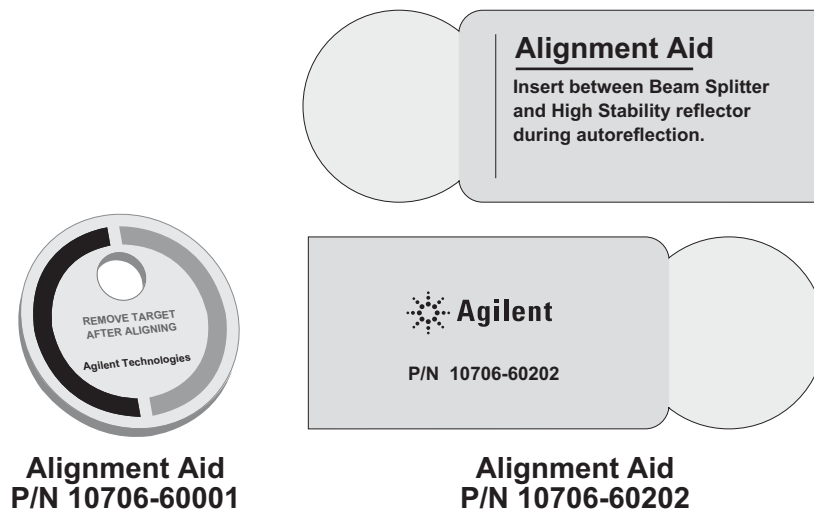
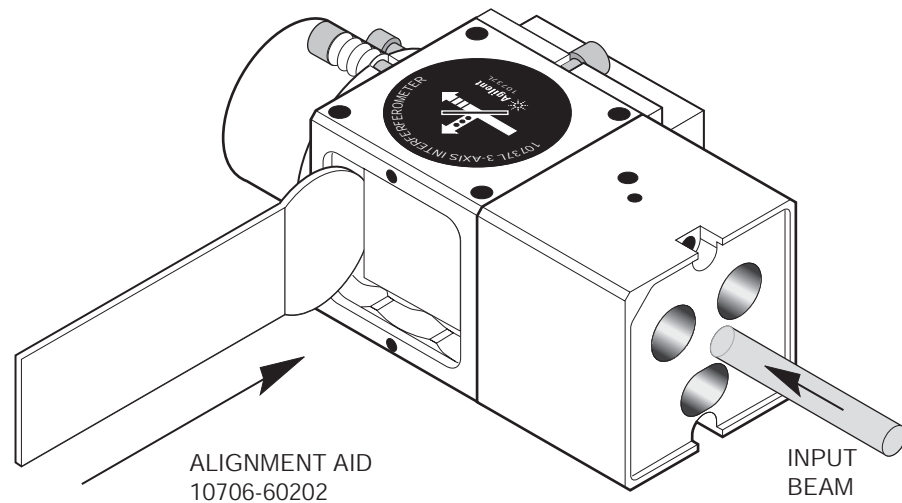

Figure 200 Agilent 10737L/R interferometers—alignment aids
Figure 203 Agilent 10737L Compact Three-Axis Interferometer with 10706-60202 Alignment Aid
Alignment aid (Agilent Part Number 10706-60202), shown in Figure 200, facilitates autoreflection alignment for the high stability adapter to achieve minimal thermal drift. It contains a quarter-wave plate which allows the reference beam to return to the laser head without offset. Figure 203 illustrates how the aid is positioned between the beam splitter and the high stability adapter during alignment.
- 3 Place the 10706-60202 alignment aid between the beam splitting cube and the reference mirror (see Figure 203).